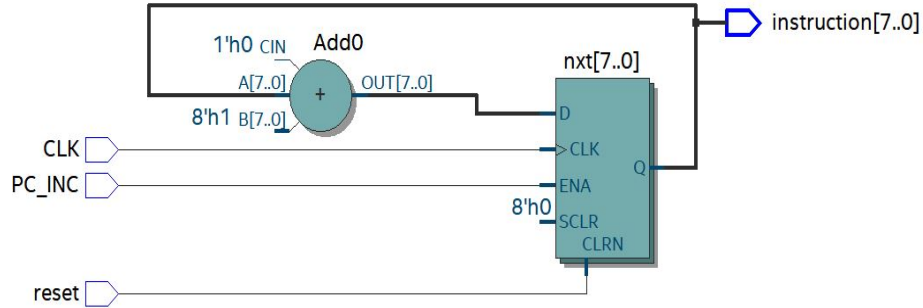

Figure 13: RTL view of PC
**Figure 13** is the symbol for instruction finder with two input ports (Enable\_bit and INS\_in) and one 8 bit output port (INS\_out). When the Enable\_bit activates instruction finder, INS\_in takes in the instruction from memory and outputs it to the decoder.